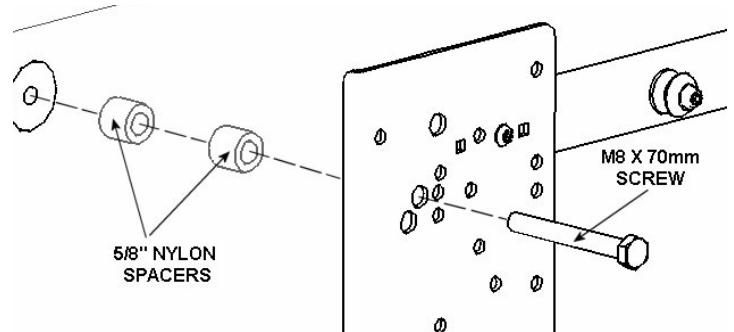
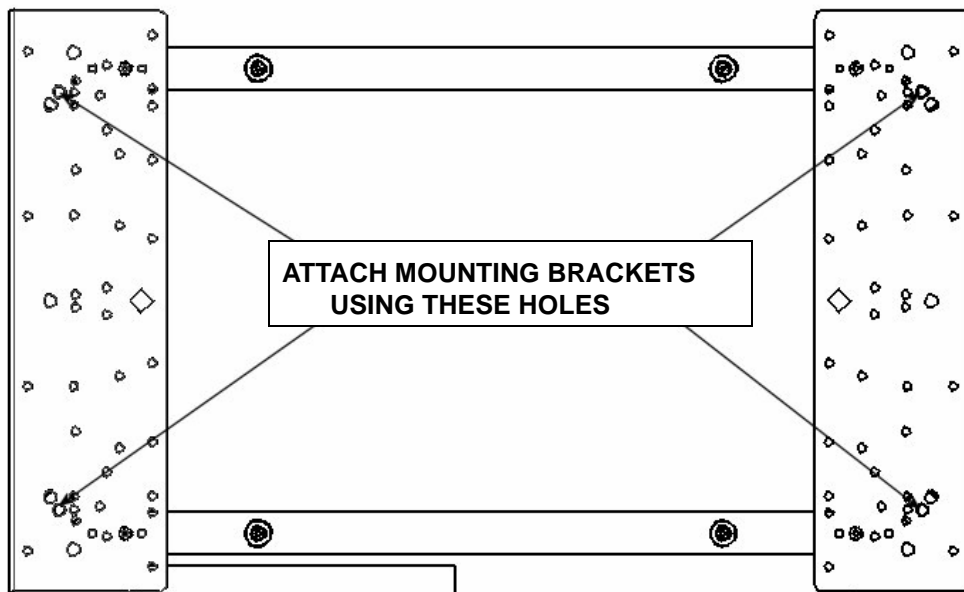

Figure 7. Spacer Installation for Group 2
Figure 8. Bracket Attachment for Group 2
3. Place eight 5/8" Nylon spacers over the mounting holes on your display (see Figure 7).
4. Place the interface brackets over the Nylon spacers (see Figure 7 and Figure 8).
6. Using the hardware in the parts bag labeled B, attach the interface brackets to your display (see Figure 7 and Figure 8). Do not overtighten the mounting screws.